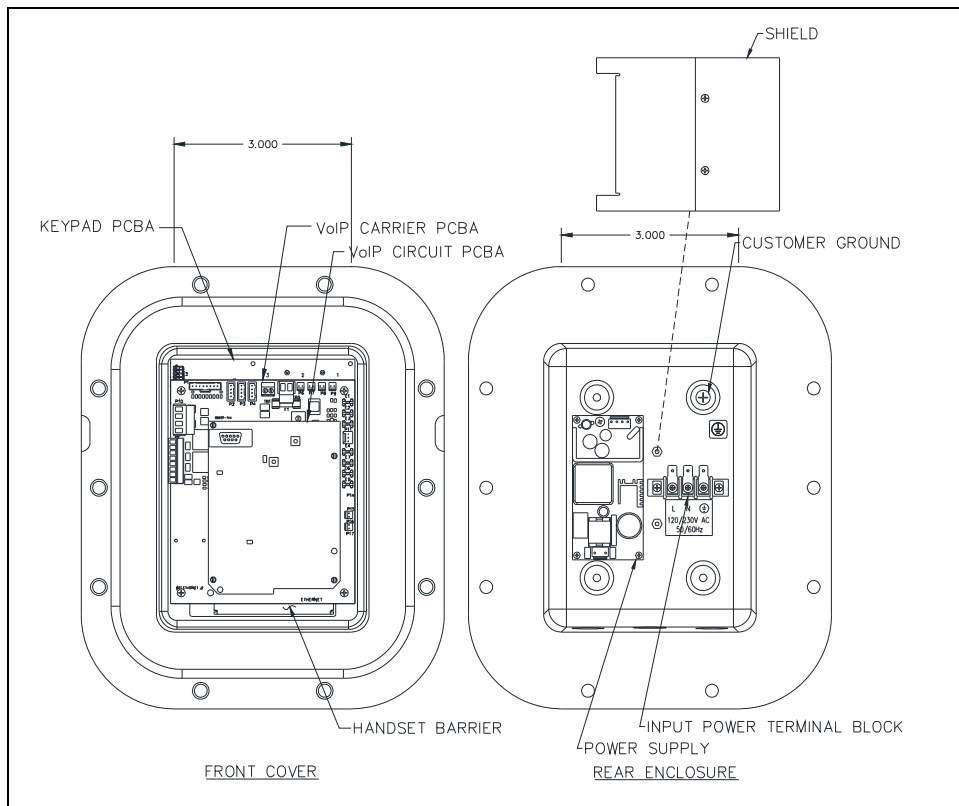
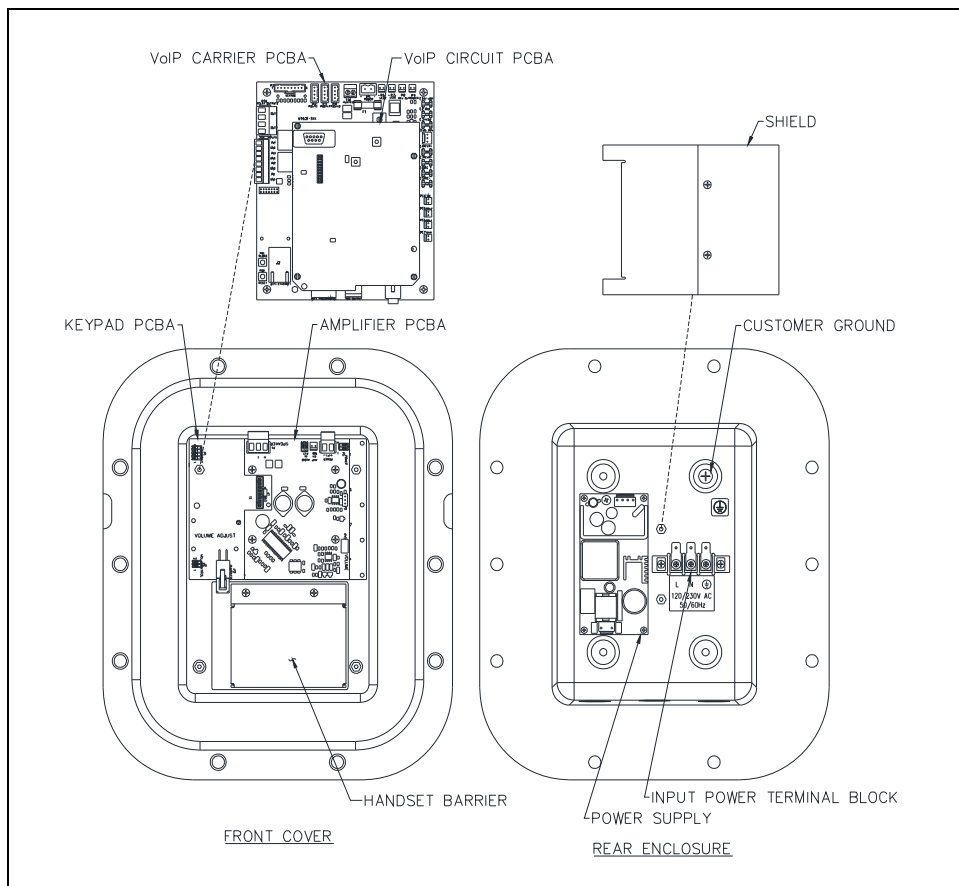

Figure 2. Division 1 VoIP Telephone—Internal View
Figure 3. Division 1 VoIP Page Telephone—Internal View (VoIP WiFi similar)
*VoIP telephones and VoIP page-telephones:* Remove the four screws securing the VoIP carrier or VoIP WiFi carrier PCBA to the stand-offs mounted to the back of the front cover (see Figure 2 for VoIP telephones or Figure 3 for VoIP page telephones).